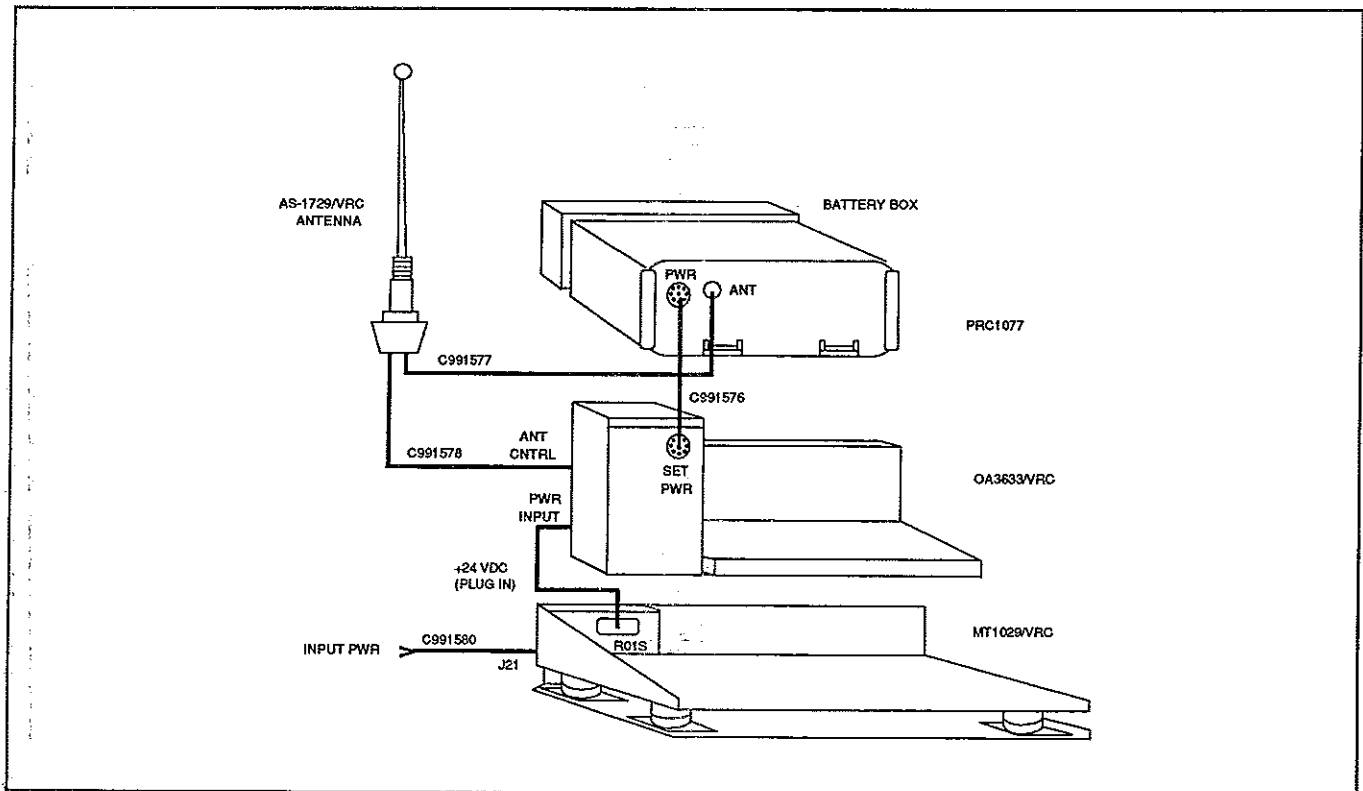

FIGURE B-10.
a. The PRC1077 can be used in a mobile configuration with the standard U.S. military mount as shown in Fig. B-10.
4. Hook up the correct cables as shown in Figure B-10.